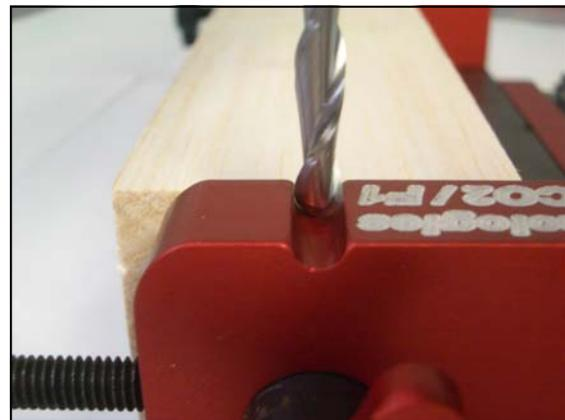

Figure 6 - Y offset position.
- Jog the machine so the ball nose endmill is centered in the groove of the fixture as shown in Figure 6. Click on the datum point in the offsets window and select the default.